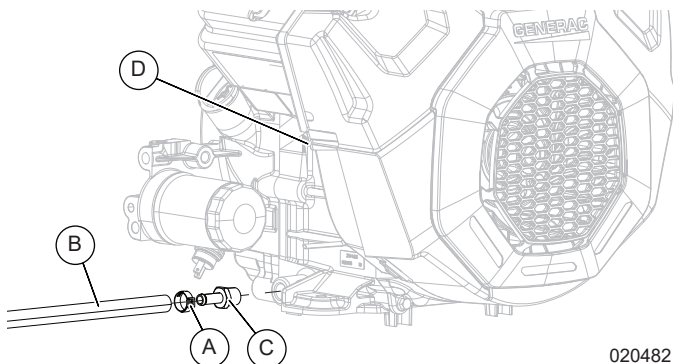

Figure 6-15. Remove Oil Drain Hose
1. See Figure 6-15. Cut off the crimped ear of the stepless ear clamp (A) to remove it from the oil drain hose assembly.